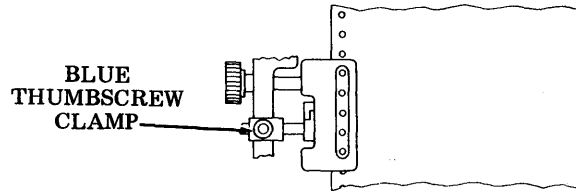

Fig. 57—Thumbscrew Clamp
- (e) To align forms to desired first column printing, loosen blue thumbscrew clamp (Fig. 57) and position forms drive assembly to align first position on paper with first printing character position. Tighten thumbscrew clamp.